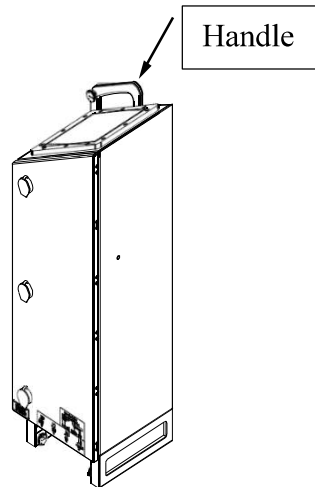

Figure 8. CL51 Measurement Unit Handle
- Use the measurement unit handle (indicated in Figure 8) for lifting and carrying the measurement unit.